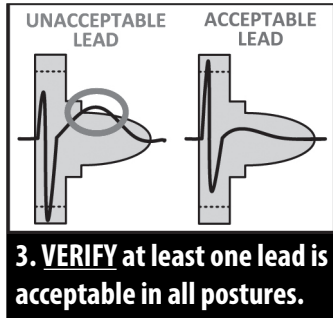

Figure 5. Evaluating the QRS Complex
3. **Evaluate** the QRS complex. If the entire QRS complex and trailing T-wave are contained within the colored profile, the QRS is deemed acceptable. If any portion of the QRS complex or trailing T-wave extends outside of the colored profile, the QRS is deemed unacceptable (Figure 5 Evaluating the QRS Complex on page 21). Multiple colored profiles may be used to evaluate the same surface ECG if varying QRS amplitudes are observed.